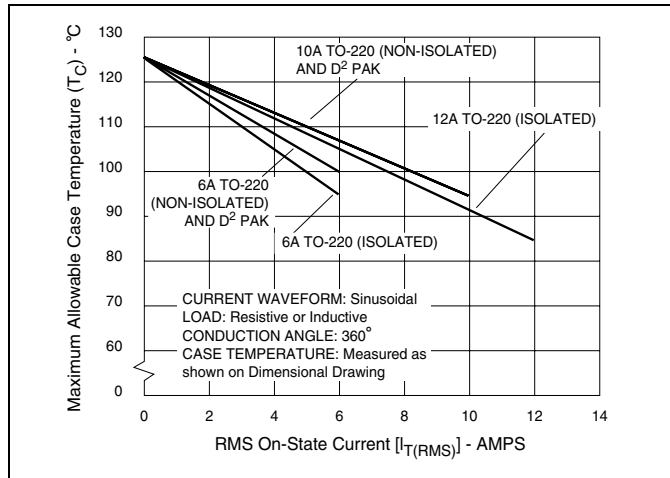
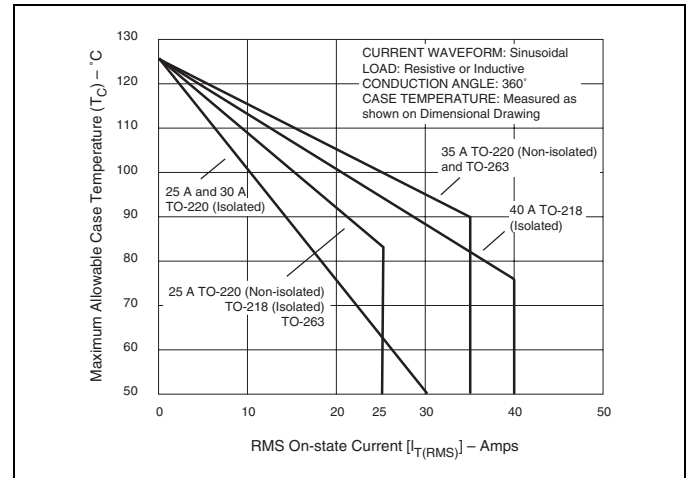
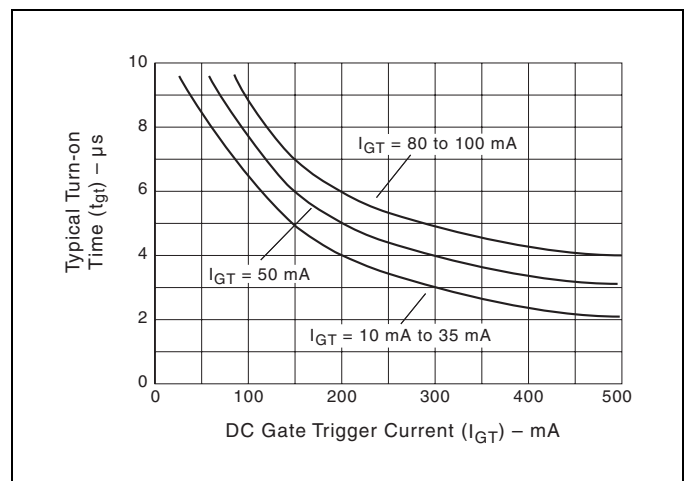

Figure E4.1 Maximum Allowable Case Temperature versus On-state Current (6 A to 12 A)
Figure E4.4 Maximum Allowable Case Temperature versus On-state Current (25 A to 40 A)
Figure E4.12 Turn-on Time versus Gate Trigger Current (Typical)
- (1) For either polarity of MT2 with reference to MT1 terminal
- (2) For either polarity of gate voltage (V_{GT}) with reference to MT1 terminal
- (3) See Gate Characteristics and Definition of Quadrants.
- (4) See Figure E4.1 through Figure E4.4 for current rating at specific operating temperature and Figure 4.16 for free air rating (no heat sink).
- (10) See Figure E4.12 for t_{GT} versus I_{GT} .
- (11) See package outlines for lead form configurations. When ordering special lead forming, add type number as suffix to part number.
- (12) Initial on-state current = 400 mA dc for 16 A to 40 A devices and 100 mA for 6 A to 12 A devices.
- (13) See Figure E4.1 through Figure E4.4 for maximum allowable case temperature at maximum rated current.
- (14) Pulse width $\leq 10 \mu s$; $I_{GT} \leq I_{GTM}$
- (15) For 6 A to 12 A devices, $R_L = 60 \Omega$; 16 A and above, $R_L = 30 \Omega$
- (16) 40 A pin terminal leads on K package can run 100 °C to 125 °C.
- (17) Alternistor does not turn on in Quadrant IV.
- (18) $T_C = T_J$ for test conditions in off state
- (19) $I_{GT} = 200$ mA for 6 A to 12 A devices and 500 mA for 16 A to 40 A devices with gate pulse having rise time of $\leq 0.1 \mu s$.
- (20) Minimum non-trigger V_{GT} at 125 °C is 0.2 V.